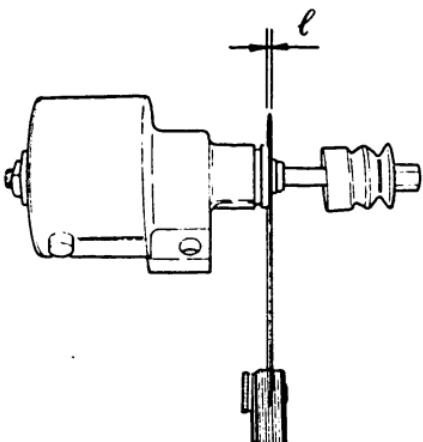

Fig. 75 Gap ( $\ell$ ) measurement
2. Ensure the gap between the housing and snap-ring is as specified in the Service Data. (Fig. 75)